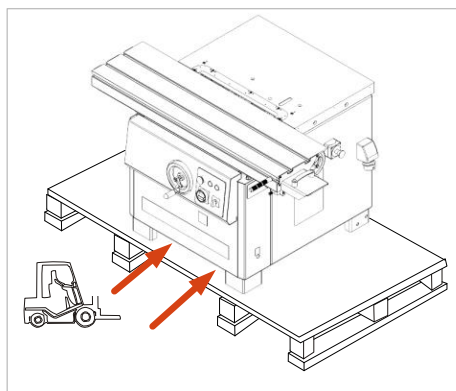

Figure 10: Setting down with a forklift truck
- Then lift the machine off the pallet with the forklift truck and feed the forks of the forklift truck as shown in ⇒ Figure 10.